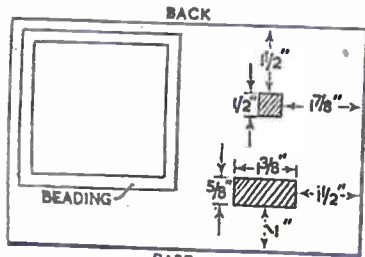

Fig. 1—The base
First the base-board, a rectangular piece of wood (Fig. 1)  $\frac{1}{2}$  in. thick is cut 8 ins. by 5 ins. The sharp edges at the top are glasspapered off. A hole (A)  $\frac{1}{2}$  in. square is cut out of this, the two outer sides being  $1\frac{1}{2}$  ins. from the longest side at the back of the base, and  $1\frac{1}{2}$  ins. from the shortest side at the right of the base. A second hole (B) is cut out of the base, the size of the end of a matchbox,  $1\frac{1}{2}$  ins. by  $\frac{1}{2}$  in., so that the cover of the matchbox will fit over a block of wood let into it. This hole is placed so that one short side is  $1\frac{1}{2}$  ins. from the right hand end of the base, the longer side being  $1\frac{1}{2}$  in. from the front of the base.
Four pieces of beading  $\frac{1}{2}$  in. to  $\frac{3}{4}$  in. in width are prepared to hold the square ash tray, which should be about  $2\frac{1}{2}$  ins. square at the base. These are fixed in position in the left hand corner near the back of the base (Fig. 1). Four more pieces of beading are cut to fit round the base of the block (C) to add a nicer finish to this part. At the foot of the